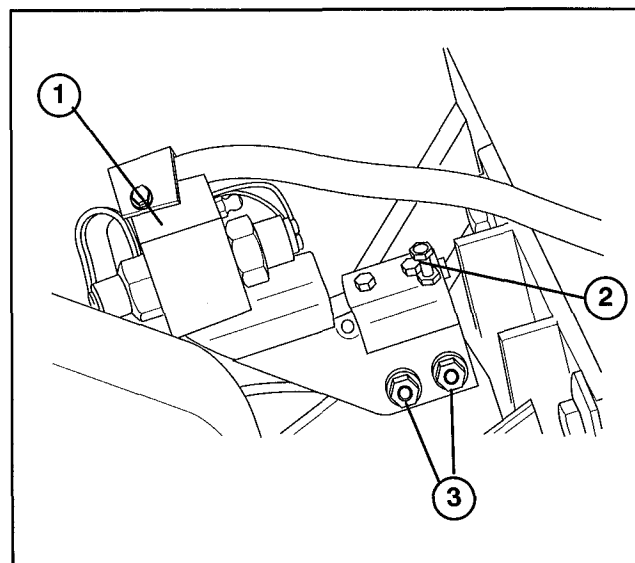

Figure 23
5. Check coring head switch (Fig. 23) with a continuity tester or ohm meter and replace if damaged. The switch plunger must be depressed when the coring head is in the raised position.
- D. Loosen adjusting screw jam nut and (2) flange nuts (Fig. 23).
- H. Tighten adjusting screw jam nut and (2) flange nuts.